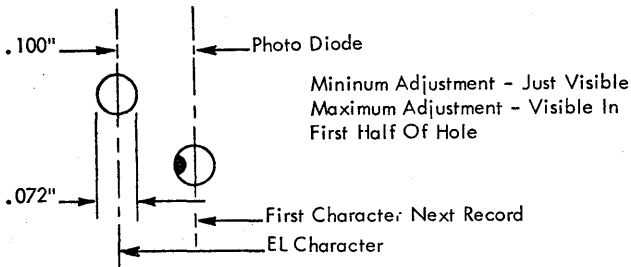

Figure 4-21. 1621 Brake Adjustment
3. Observe where the tape stops. The photo diodes should be just visible beneath the holes of the first character of the next record. If the leading edge of the first character tape hole is more than  $\frac{1}{2}$  way past the photo diode, the tape has not stopped fast enough (Figure 4-21).